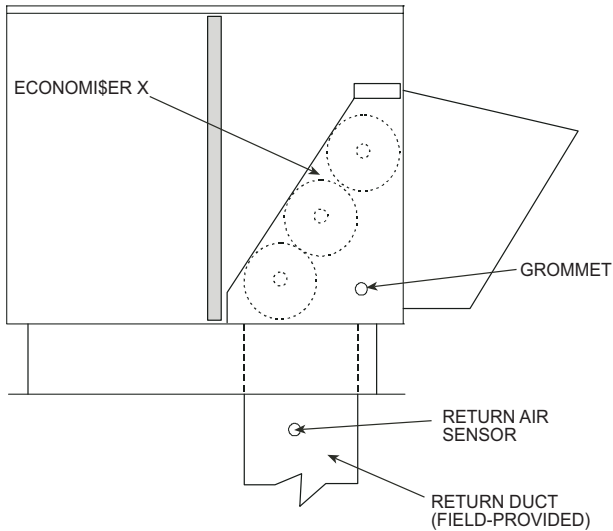

Fig. 3 - Return Air Temperature Sensor Mounting Location
3. Using the screws provided in the CRTEMPSN005A00 kit, mount the differential temperature sensor in the return air duct as shown in Fig. 3.